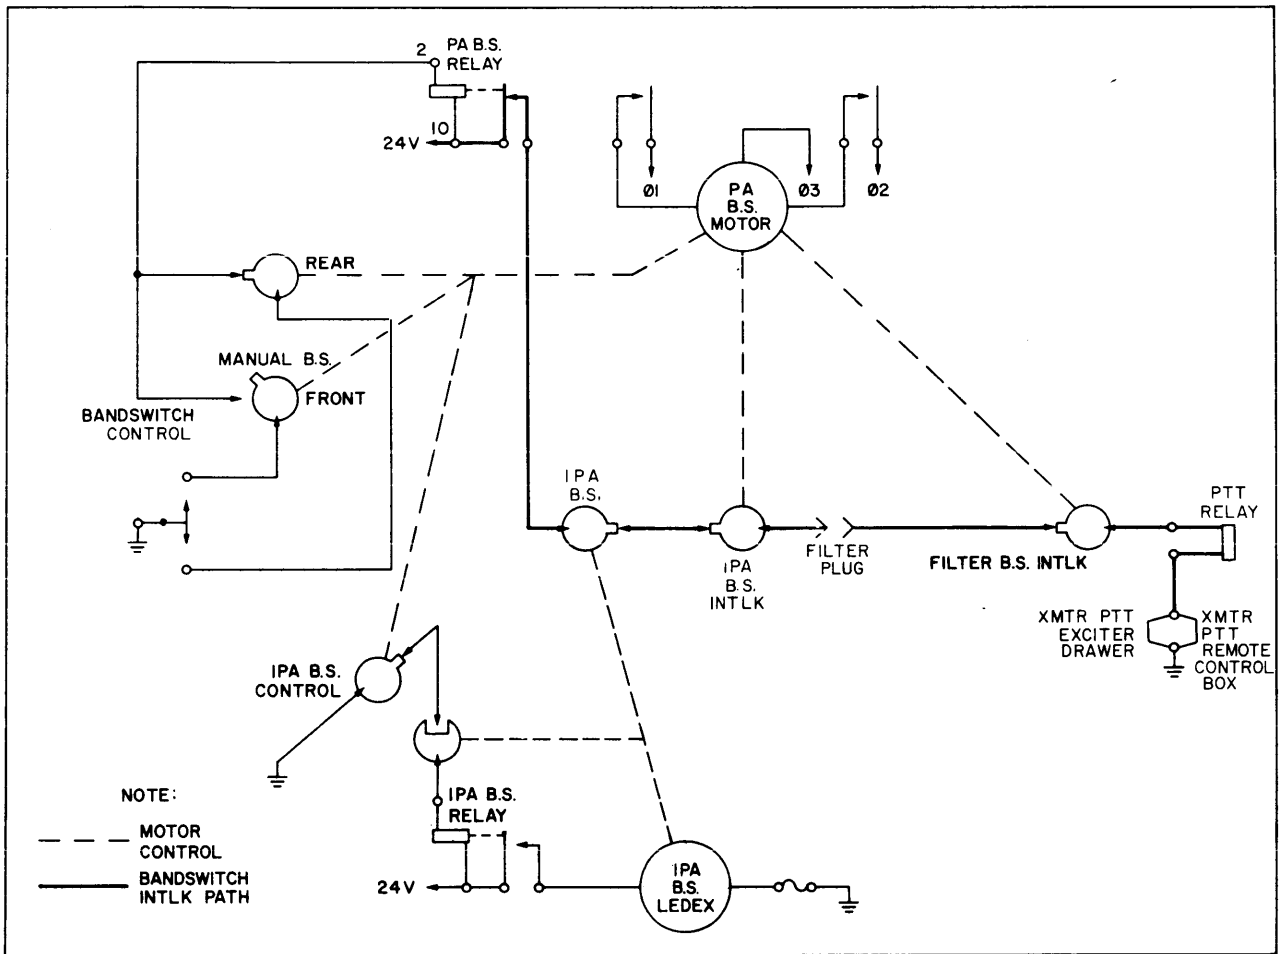

Figure 4-5. Bandswitch Control
d. Bandswitch Control. (Refer to figure 4-5 and 7-6.) -
(1) General - Bandswitching within the HFLM is performed with the PA BANDSWITCH control.
(2) Detailed Circuit Analysis - Bandswitching is accomplished by providing a ground to the PA bandswitch. The ground thus provided will then be routed to the PA bandswitch relay which supplies ac voltage to the PA bandswitch motor.
(3) Manual Control - Pin (X) on XA2001 provides ground to the common arm of the bandswitch control lever (S5004). The two poles of this switch are connected to pins (i) and (j) of J1 (Bandswitch Control Assembly). When the neutral arm is moved to the right, the ground picked up at pin (i) is routed through PA bandswitch manual control rear wafer to pin (2) of the PA Bandswitch relay K1. Pin 10 of the PA bandswitch